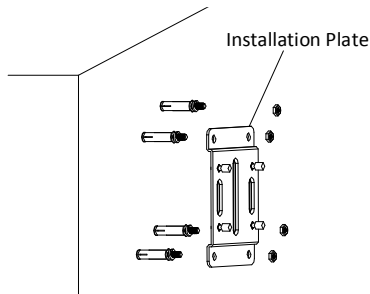

Figure 2-6 Attach the Installation Plate
3. Fix the installation plate and insert M10 \times 80 expansion screws into the screw holes, as shown in Figure 2-6.